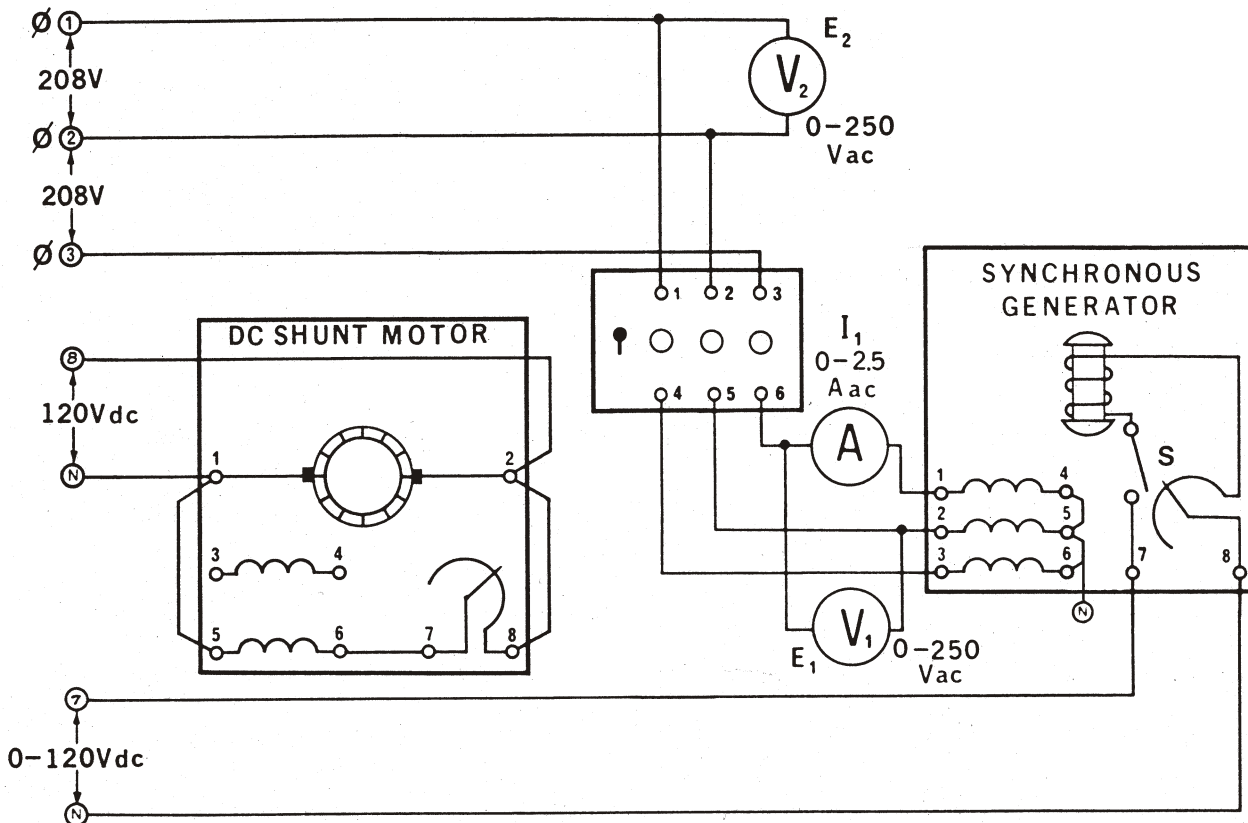

Figure 12-1.
1. Using your Three-Phase Synchronous Motor/Generator, DC Motor/Generator, Synchronizing Module, Power Supply, AC Ammeter and AC Voltmeter, connect the circuit shown in Figure 12-1. Note that the output of the alternator is connected through the synchronizing switch to the fixed 208 V 3 ϕ output of the power supply, terminals 1, 2 and 3. The rotor of the alternator is connected to the variable 0-120 V dc output of the power supply, terminals 7 and N. The DC shunt motor is connected to the fixed 120 V dc output of the power supply, terminals 8 and N.